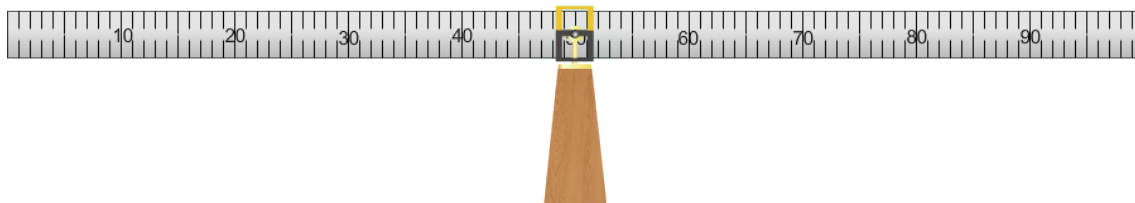

Figure 5: Unknown weight data and calculations
6. Clearly show your weight and lever arm data by adding information to Figure 5. **The unknown weight doesn’t include the clamp and hanger. (You don’t want your boots and backpack counted when you’re weighed!)**
7. Show your calculations in the space below the beam in Figure 5.